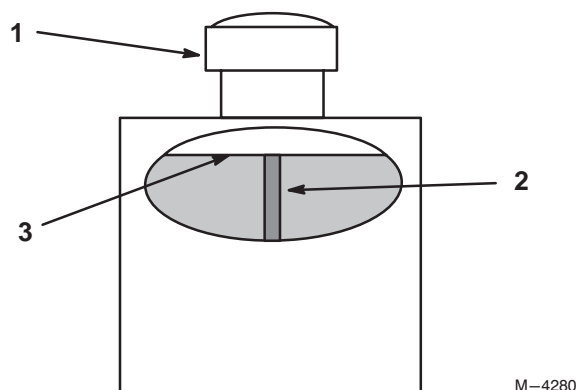

Figure 10
- Clean area around filler neck of hydraulic tank (Fig. 10).
- Remove cap from filler neck. Look inside to check if there is fluid in the reservoir. (Fig. 10).
Note: Fluid level should be to the top of the baffle when fluid is warm (Fig. 10).